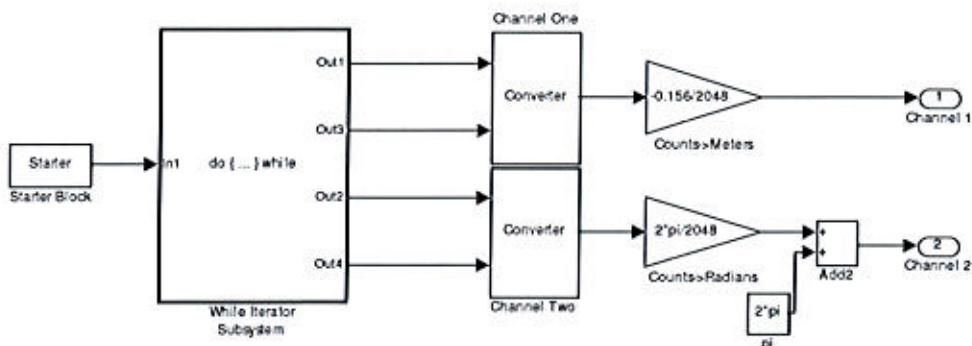

Figure 37 Feedback Encoder Block - Look Under Mask
- Choose "Look under Mask" to see the subsystems (Figure 37).